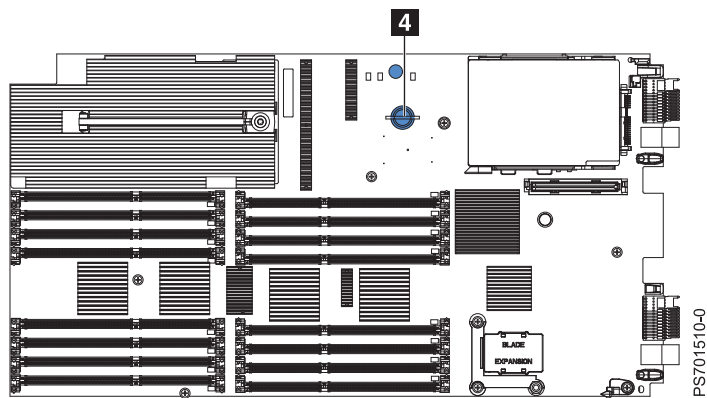

Figure 12. Expansion blade retention screw
8. To access the expansion blade retention thumb screw (shown by **4** in Figure 12).